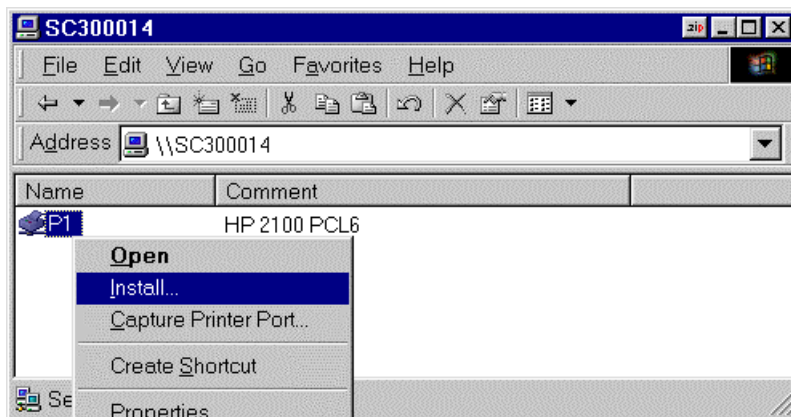

Figure 6: Install SMB Printer
- OR, using the *Capture Printer Port* menu option shown in Figure 6 above.